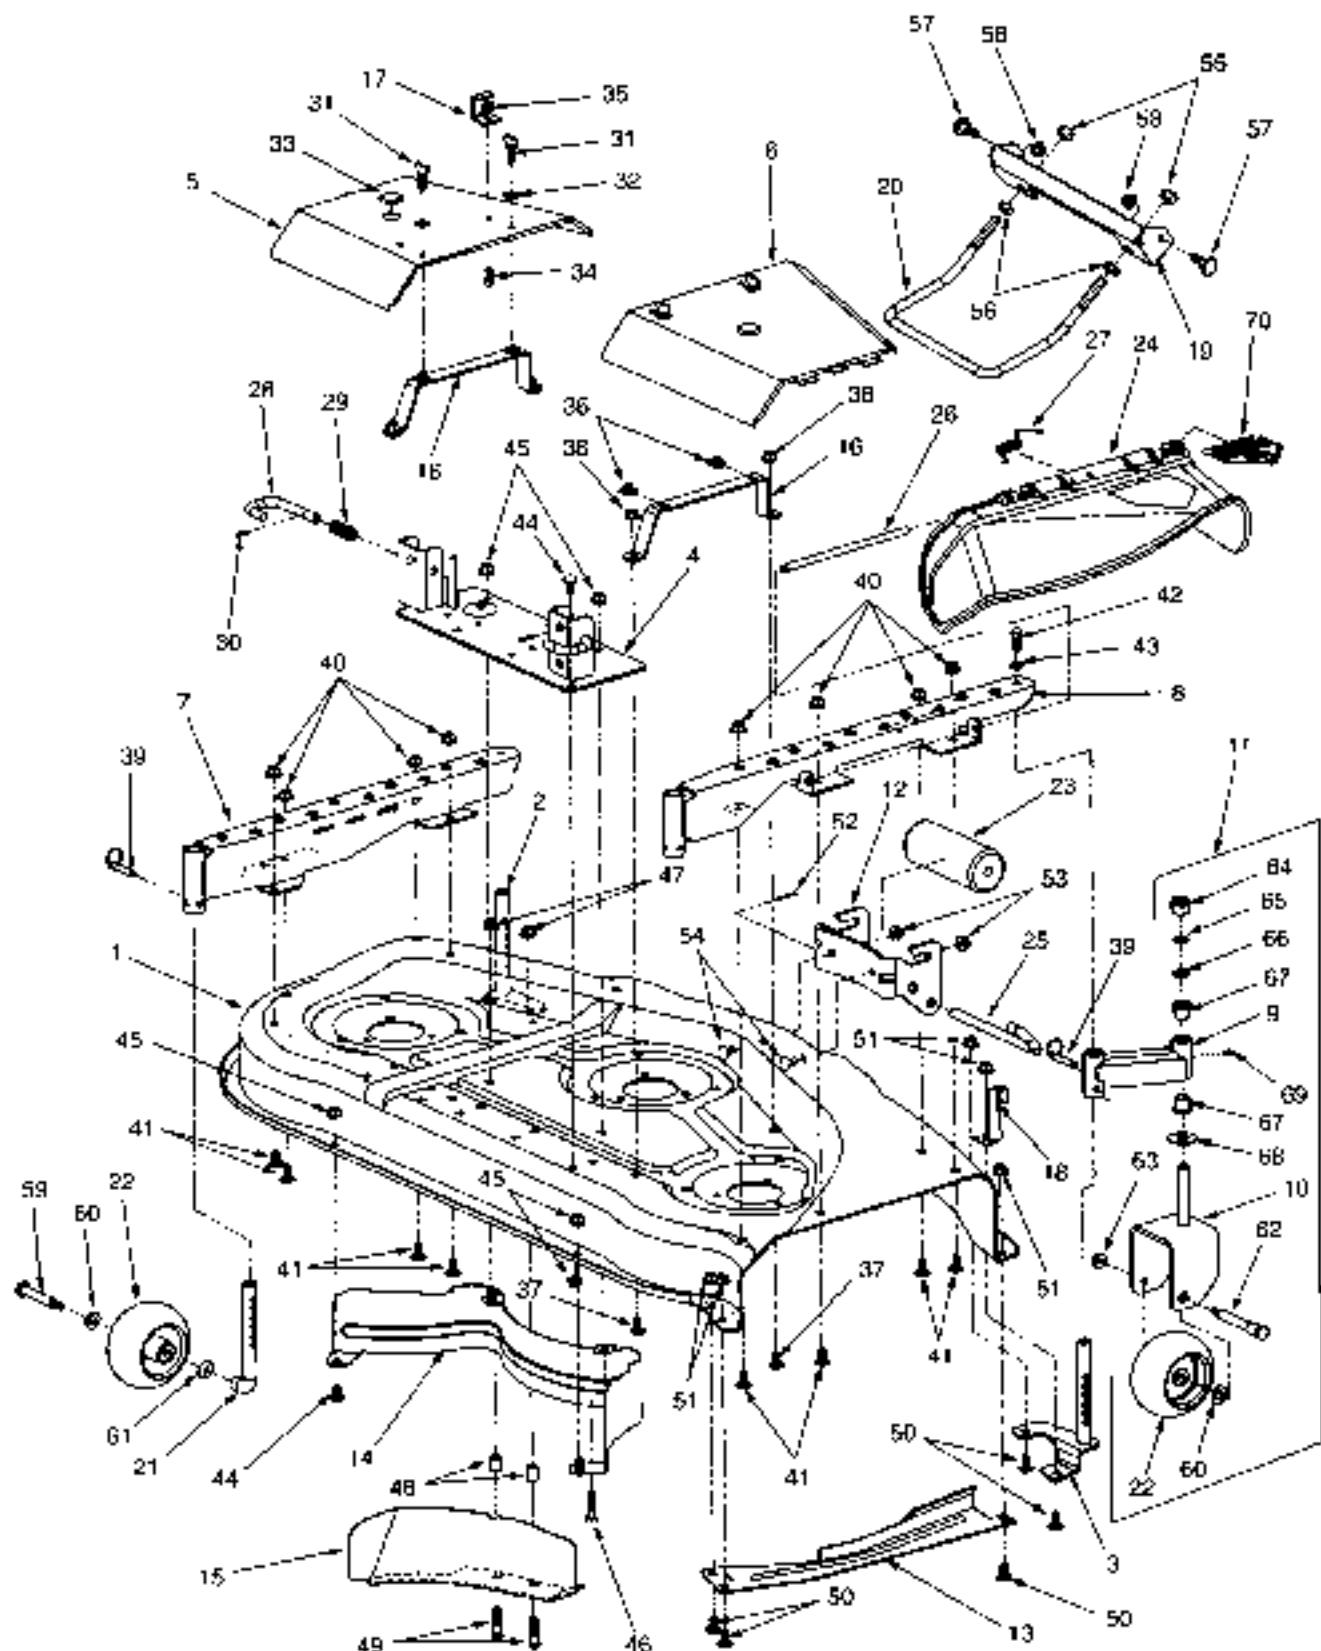
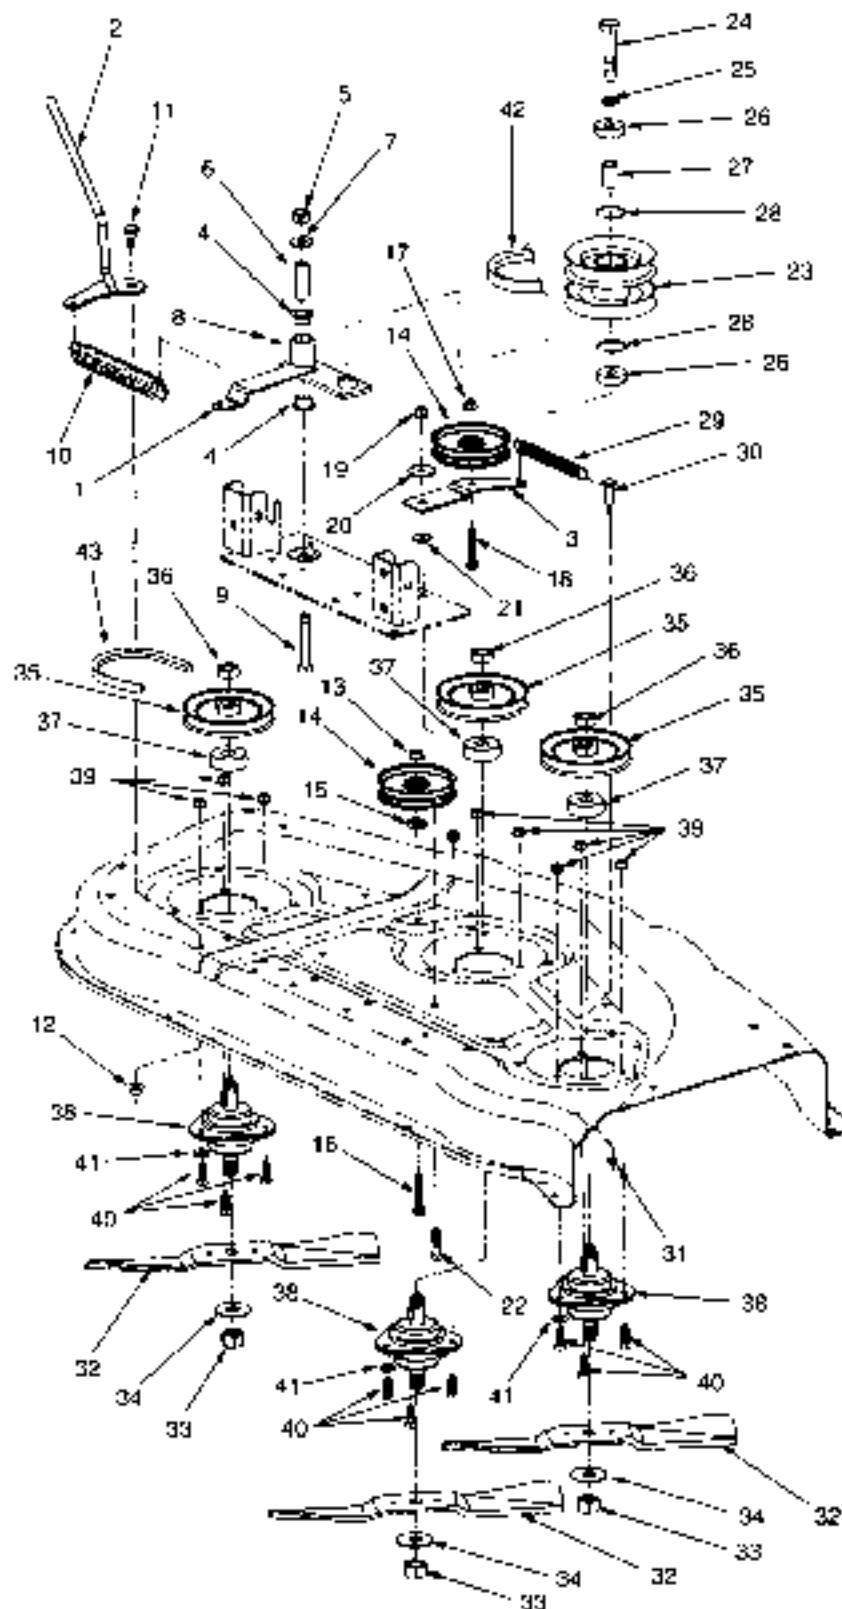

Figure 5-53. Deck and Attachments (Model 190 - 301 Mower Deck).
Figure 5-54. Deck Drive Components (Model 190 - 301 Mower Deck).
Remove the mower deck from the tractor (see Owner's Manual for correct procedure) and thoroughly clean the entire deck before beginning any repair procedures. Remove the front lift rod/lift bracket (19 and 20, Fig. 5-53) assembly from the tractor frame.
1. If not done previously, release the tension handle (2, Fig. 5-54) from the handle stop bracket (17, Fig. 5-53), and also remove the PTO belt (42 Fig. 5-54) from the PTO clutch.
2. Remove the LH belt cover (5, Fig. 5-53) by removing the two thumb screws (31) and bell washers (32), then sliding the cover inward to separate the three locking tabs from the LH caster channel (7).
3. Note the position of the handle stop bracket (17, Fig. 5-53), then remove the bracket from the LH belt cover by removing the hex cap screw (34) and hex flange lock nut (35). Pull the button plug (33) from the cover.
4. Remove the RH belt cover (6, Fig. 5-53) by removing the two thumb screws (31) and bell washers (32); then sliding the cover inward to separate from the RH caster channel (8). Pull the button plug (33) from the cover.
Never operate the mower deck without the deflector chute assembly (24, Fig. 5-53) installed and in the down position.
To ensure correct re-installation of the deflector chute (24, Fig. 5-53), note the direction of the coil windings and the position of the spring ends before removing the hinge pin (26) and torsion spring (27).
9. Remove the deflector chute (24, Fig. 5-53) as follows:
- a. Raise the deflector chute and slightly deflect the chute to access the rear end of the hinge pin (26).
- d. While holding the chute and torsion spring (27) in place, pull the hinge pin from the deflector chute
- e. Carefully lift the chute from the RH caster channel (8) and remove the torsion spring.
10. Pull the clevis pins w/detent ball (39, Fig. 5-53) from the rear of the LH and RH caster channels (7 and 8), and remove the rear deck axle/ball wheel assemblies (21 and 22).
- 11 Remove the caster wheel assemblies (11, Fig. 5-53) as follows:
- a. Remove the hex cap screw (42) and lock washer (43) from the front end of both the LH and RH caster channels (7 and 8).
- b. Remove the four hex flanged lock nuts (40) and carriage bolts (41) fastening each caster channel to the deck housing and remove the LH and RH caster channels (7 and 8).
- c. Pull the clevis pins w/detent ball (39) from the front casters (9) and slide the caster wheel assemblies (11) off the LH and RH caster spindles (2 and 3).
For reassembly purposes, note the hex cap screw (22, Fig. 5-54) fastening the idler arm (3) to the mounting plate (4, Fig. 5-53) is the same hex cap screw (46, Fig. 5-53) that fastens the front right mounting tab of the rear inner baffle (14, Fig. 5-53) to the underside of the deck.
12. Remove the idler arm (3, Fig. 5-54), flat idler pulley (14), and shoulder spacer (20) as an assembly by removing the hex flanged lock nut (19), hex cap screw (22), and flat washer (21). Separate the shoulder spacer from the idler arm.
Legend For Figure 5-53.
13. Remove the rear inner baffle (14, Fig. 5-53) from the underside of the deck by removing the three hex flanged lock nuts (45) and carriage bolts (44). Note the front/left carriage bolt also secures the mounting plate (4).
14. Remove the mounting plate (4, Fig. 5-53), double pulley pivot arm (1, Fig. 5-54), and double pulley (23, Fig. 5-54) as one assembly by removing the remaining two hex flanged lock nuts (45, Fig. 5-53) and carriage bolts (44).
15. Remove the fixed flat idler pulley (14, Fig. 5-54) and spacer (15) from the deck housing (1, Fig. 5-53) by removing the hex cap screw (16) and hex flanged lock nut (13).
Some early production decks may not be equipped with the front deck baffle (15, Fig. 5-53), spacers (48), and hex cap screws (49). Refer to Service Bulletin CC-276.
16. Remove the LH caster spindle (2, Fig. 5-53), front deck baffle (15), and spacers (48) by removing the hex flanged lock nuts (47) and hex cap screws (49).
17. Note the location of the of the chute deflector stop (18, Fig. 5-53), then remove the RH caster spindle (3) and chute deflector stop (18) by removing the hex flanged lock nuts (51) and carriage bolts (50).
18. Remove the finger guard (13, Fig. 5-53) from the bottom of the deck housing by removing the three hex flanged lock nuts (51) and carriage bolts (50).
19. Pull the two U-nuts (36, Fig. 5-53) from each mounting strap (16).
20. Remove the two mounting straps (16, Fig. 5-53) from the deck housing by removing the hex flanged lock nuts (36) and carriage bolts (37).
21. Remove the cotter pin (52, Fig. 5-53) and withdraw the roller pin (25) to remove the front roller (23).
22. Remove the front roller bracket (12, Fig. 5-53) by removing the hex flanged lock nuts (53) and carriage bolts (54).